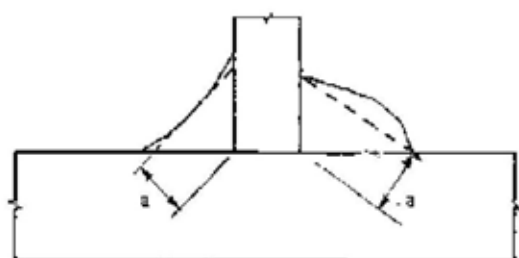

Figure 4.3 - Fillet weld thickness
- The effective seam thickness a of a fillet weld should be taken as the height of the largest triangle (with equal or unequal legs) that can be inscribed within the theoretical root base, see Figure 4.3.